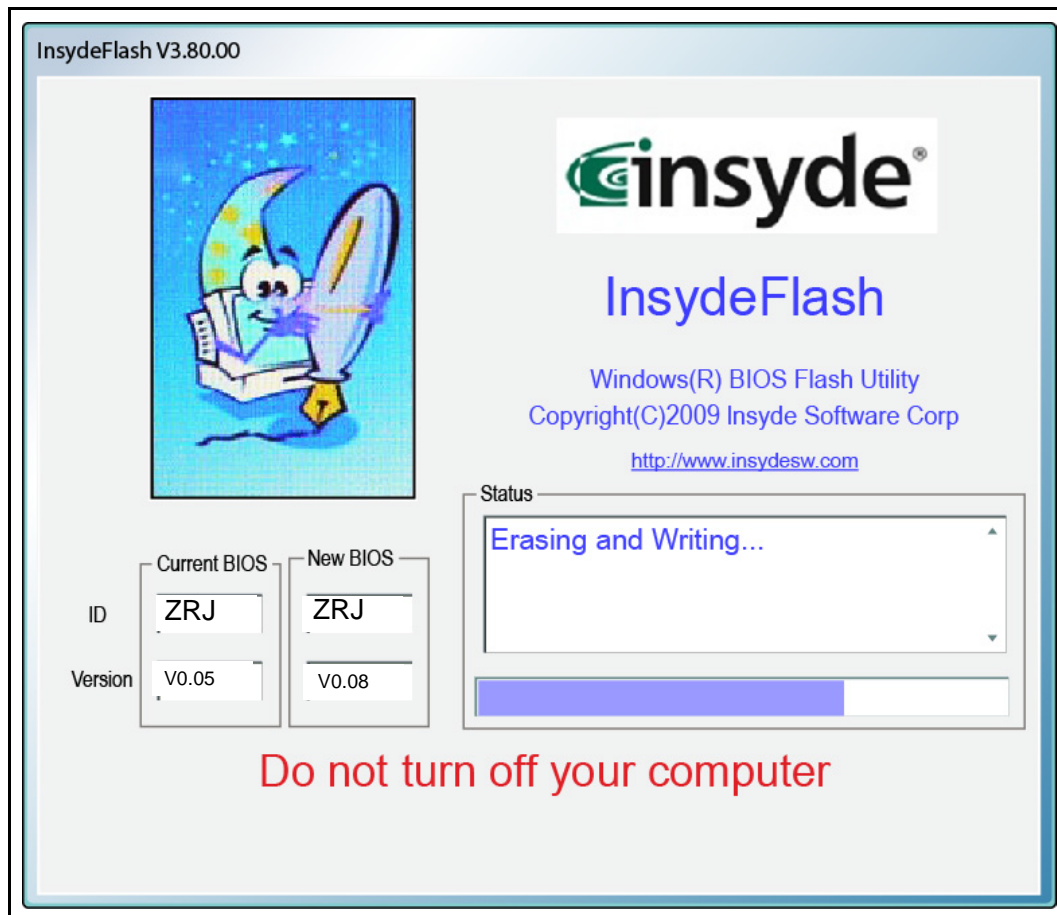

Figure 2-18. InsydeFlash
4. Click **OK** to begin the update. A progress screen is shown. (Figure 2-18)